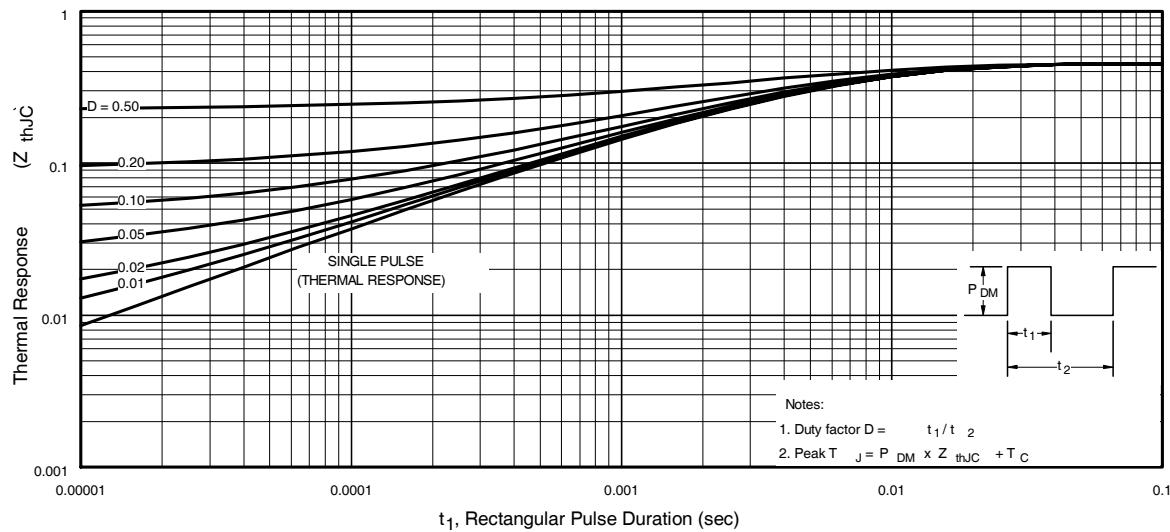

Fig 11. Maximum Effective Transient Thermal Impedance, Junction-to-Case
- ① Repetitive rating; pulse width limited by max. junction temperature. (See fig. 11).
- ② Starting $T_J = 25^\circ\text{C}$, $L = 0.049\text{mH}$
- $Z_{thJC}(D, t_{av})$ = Transient thermal resistance, see figure 11)